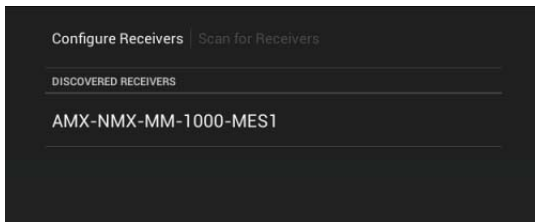

FIG. 37 Configure Receiver window - DISCOVERED RECEIVERS list indicating one Enzo receiver
2. As Enzo units are discovered, they are added to the *DISCOVERED RECEIVERS* list (FIG. 37):
NOTE: *As Enzo units are discovered, they are listed in order in which they are discovered. Each Enzo unit is represented in this list by its current device name (as set on the Enzo unit). If the device name has not been edited, then the default device name is used, as shown in FIG. 37. The default device name is based on the unit's serial number.*